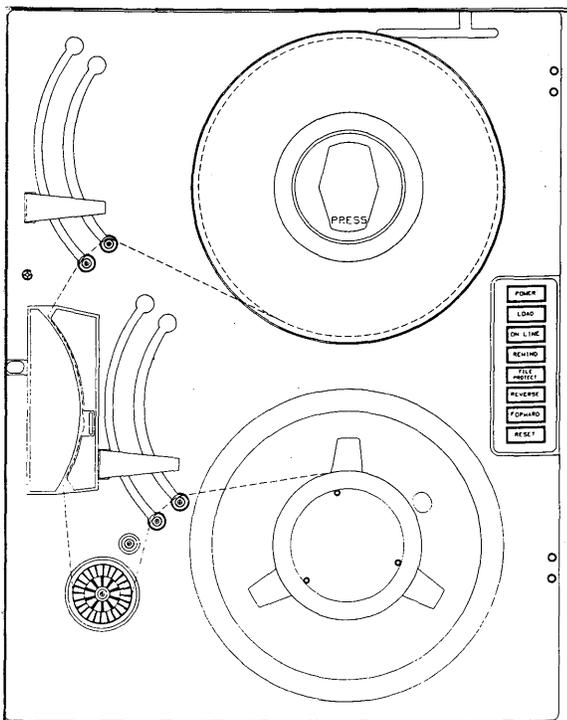

Figure 3-17. Wangco Tape Loading Diagram
6. Thread the tape in accordance with the tape loading diagram shown in Figure 3-17.